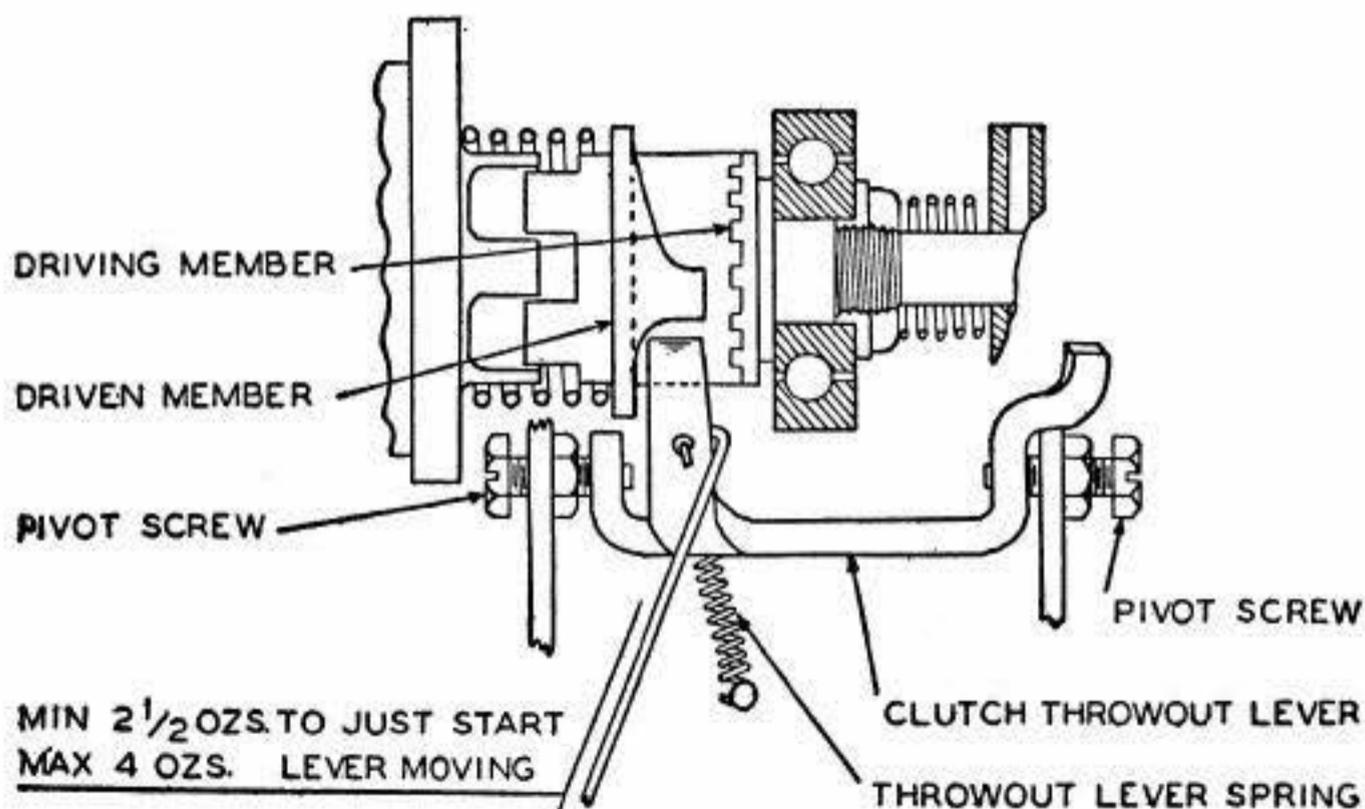

Fig. 3
2.05 The **clutch-throwout-lever spring** should have a tension as indicated in Fig. 3, measured at right angles to the throwout lever at the spring hole, when the clutch teeth are fully engaged and the clutch-throwout lever is resting against the low part of the driven clutch-member. **Fig. 3**